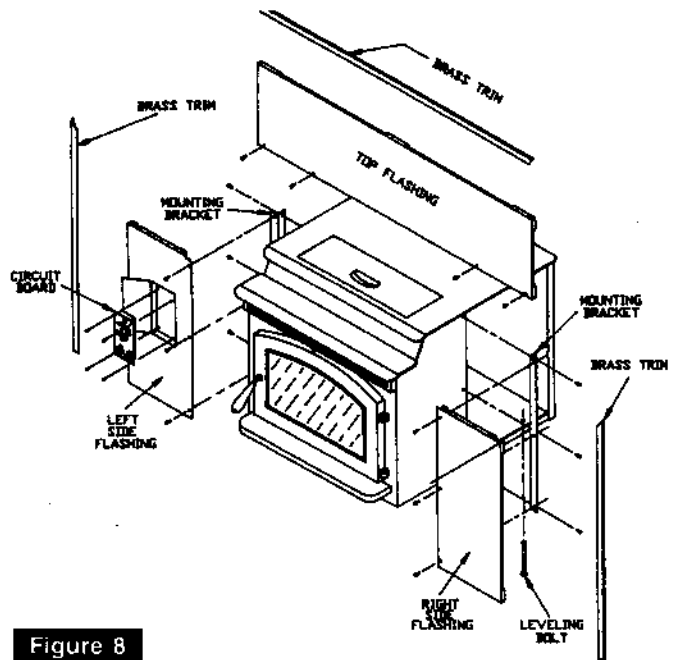

Figure 8
Follow instructions packed with P23 Flashing Set (A-P23-F). (see figure 8)
4. Attach flashing (see figure 8), route power cord out the side nearest a 120V receptacle. Slide in insert.